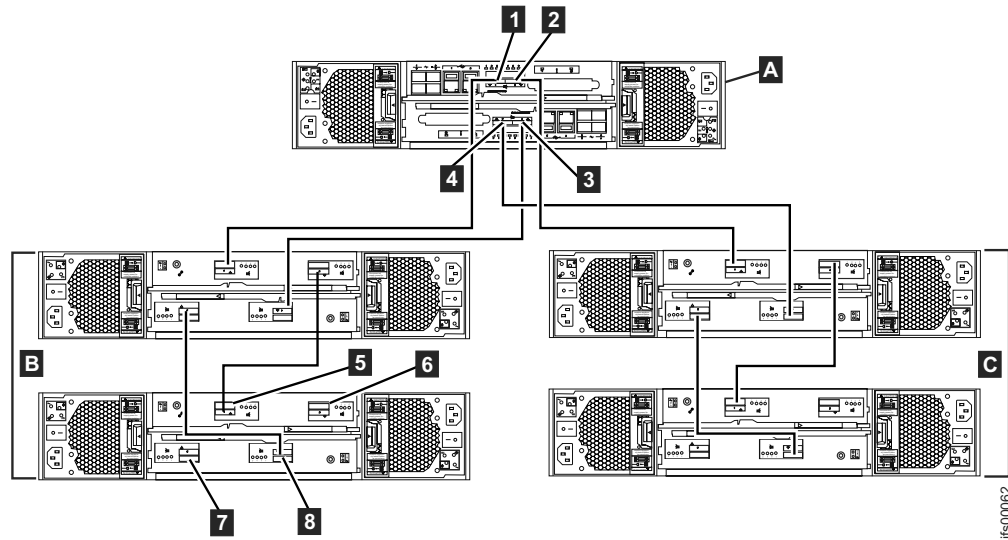

Figure 33. Internal cabling connections between the control enclosure (A) and the expansion enclosures (B & C).
The following table refers to Figure 33 on page 45.
1. Review Table 15 and the figures before attaching the SAS cables. The table below refers to Figure 33.